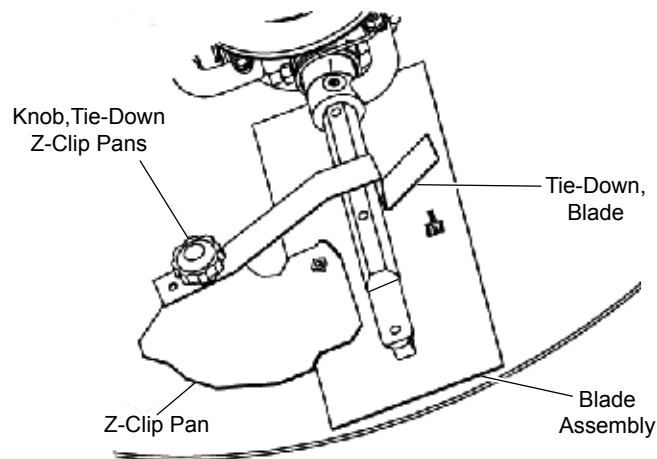

Figure 36. Z-Clip Finisher Pan Instructions
Refer to Figure 36 when installing pans onto finisher blades.
3. Attach the blade tie-downs to the far side of the Z-Clip brackets with tie-down knobs as shown in Figure 36.